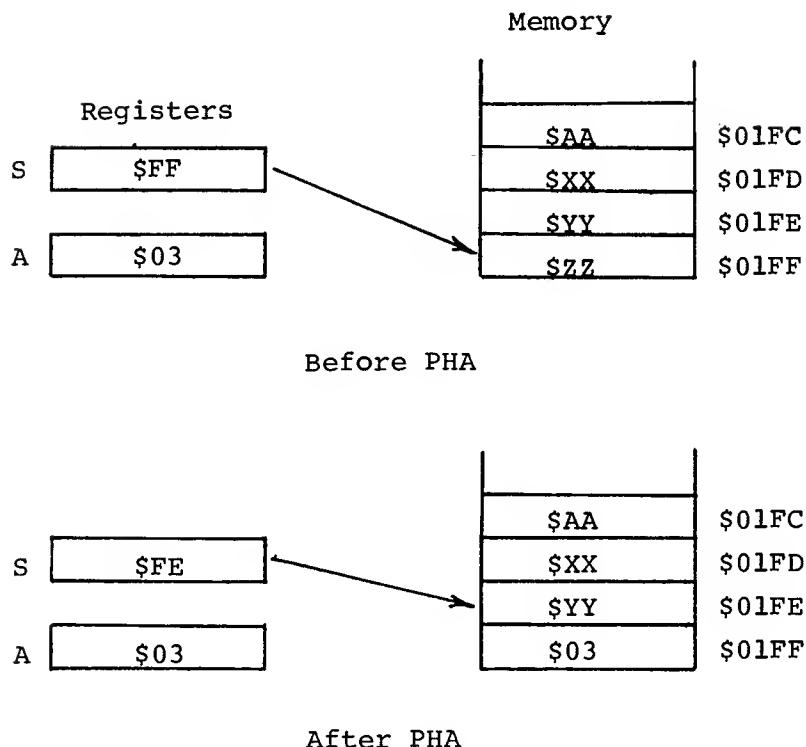

Figure 8-1. How a Register is Pushed Onto the Stack
Figure 8-1 shows the effect of the PHA instruction on the stack. In the upper drawing, the Stack Pointer (S) is pointing to the top of the stack, location \$01FF, and the Accumulator contains \$03. After PHA is executed (lower drawing), the Stack Pointer has been decremented to \$FE and the contents of the Accumulator have been stored in location \$01FF. If we were to execute a PLA instruction after the push, the Stack Pointer would be incremented, to point to \$01FF, and the Accumulator would be loaded with the contents of location \$01FF.